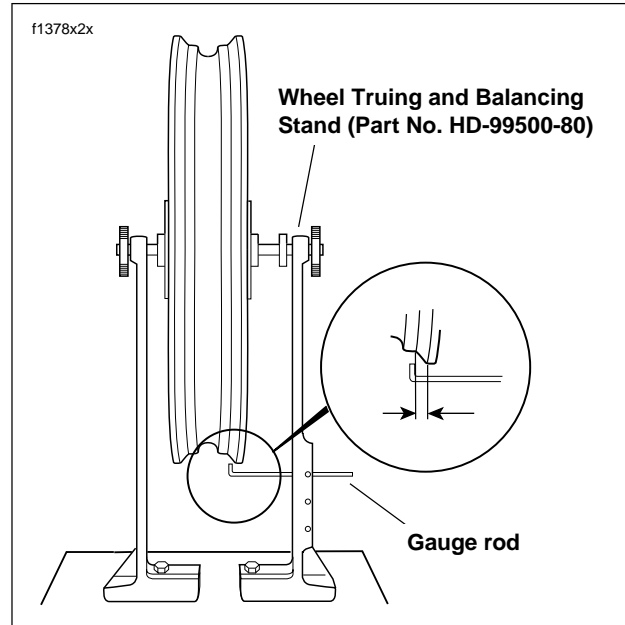

Figure 2-12. Checking Cast Rim Lateral Runout
1. See Figure 2-12. Install truing arbor in wheel hub and place wheel in WHEEL TRUING AND BALANCING STAND (Part No. HD-99500-80).